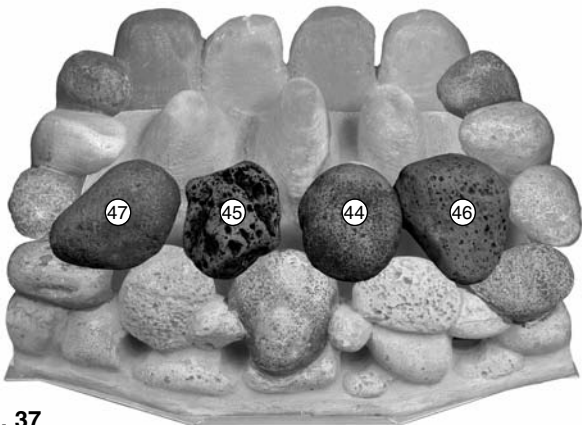

Fig. 37
5. Following Figs. 37 to 39, place the loose pebbles on to the fuel bed. It is important that the pebbles 'nest' together and sit on top of the fuel bed peaks.